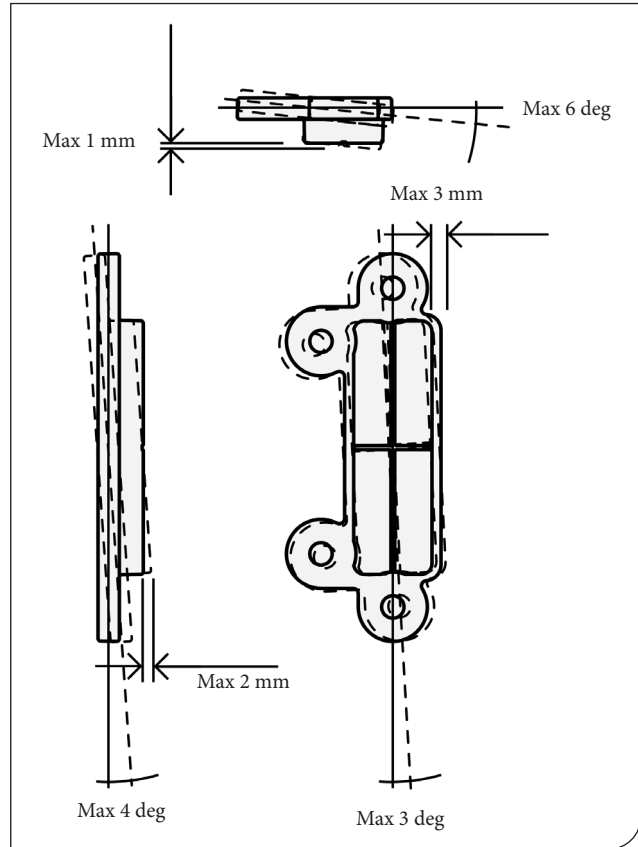

Fig. 26.
4. Check that following magnet alignment requirements are not exceeded. See fig 26.